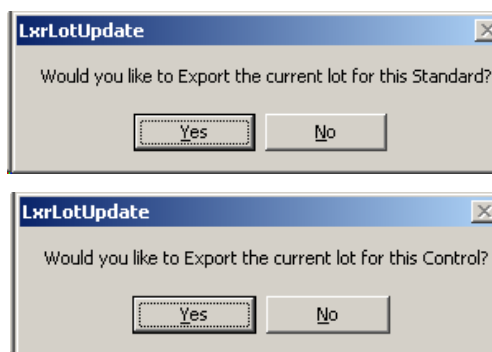

Figure 5-71 Export Confirmation Dialog Box
3. Click **Export Lot**. A standard or control confirmation dialog box opens verifying that you want to export the current lot for the standard or control. See Figure 5-71.